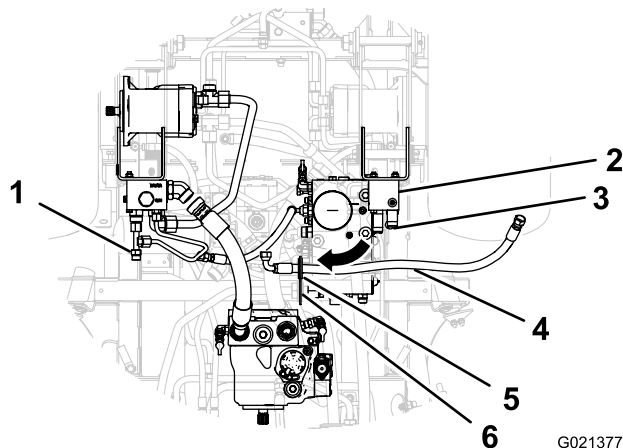

Figure 13
1. Align the 90° fitting of the cross hose through the cushioned guide in the support bracket, and slide the hose through the bracket (Figure 13).